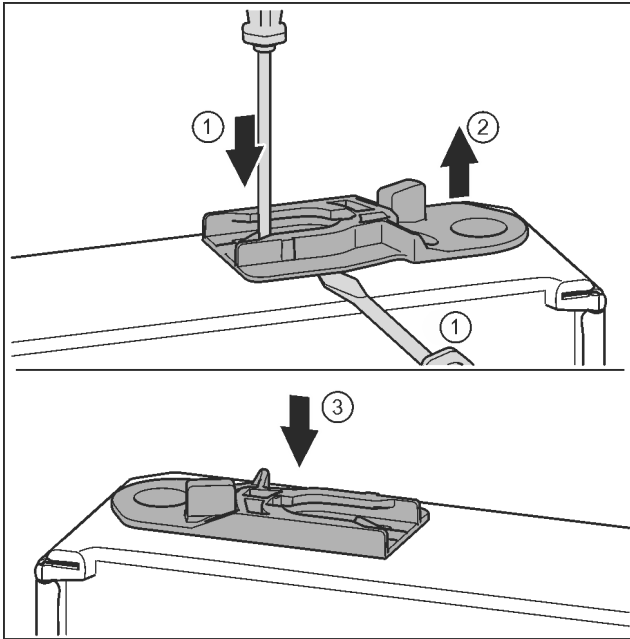

Fig. 35 *
- ▶ Pull out the guide bush: Press the tab with a slotted screwdriver and, at the same time, insert the slotted screwdriver under the guide bush. Fig. 35 (1, 2) *
- ▶ Slide the guide bush included in the scope of supply to the other side of the housing. Fig. 35 (3) *